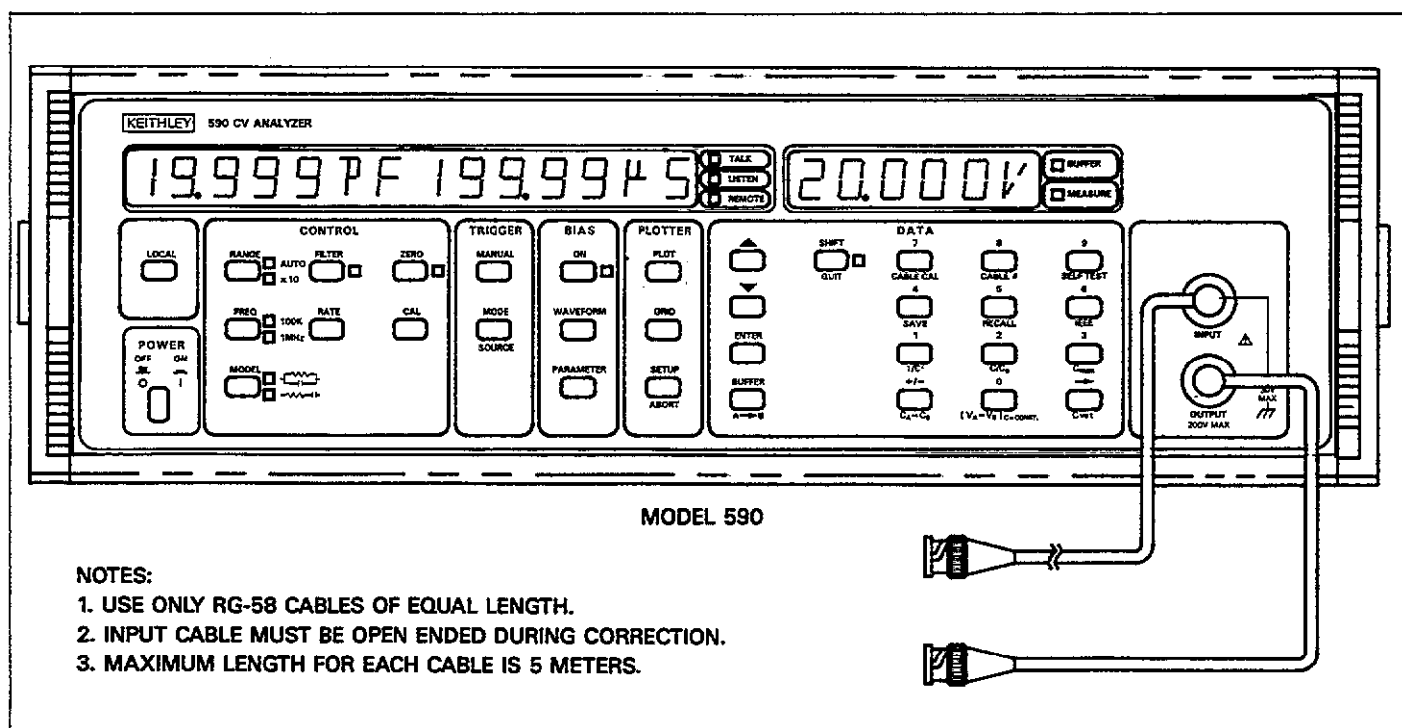

Figure 3-52. Connections for Cable Correction
4. Connect two identical RG-58 cables of equal length to the front panel of the instrument as shown in Figure 3-52. Note that the opposite end of the cable connected